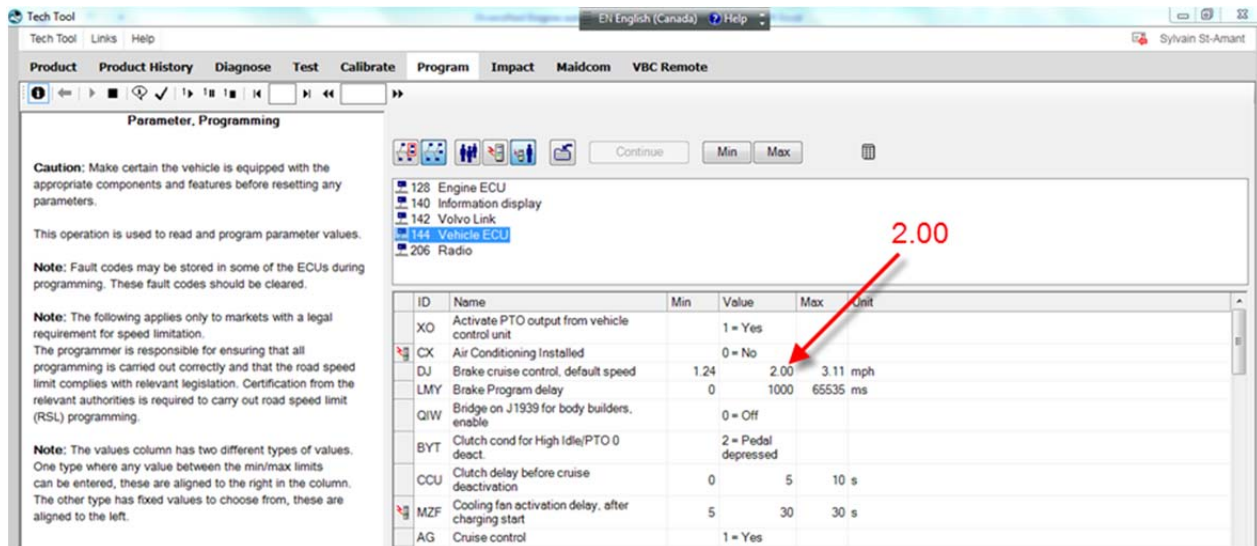

FIGURE 33
5. Change DJ parameter **Value** to 2.00 (FIGURE 33) then press ENTER on your keyboard.